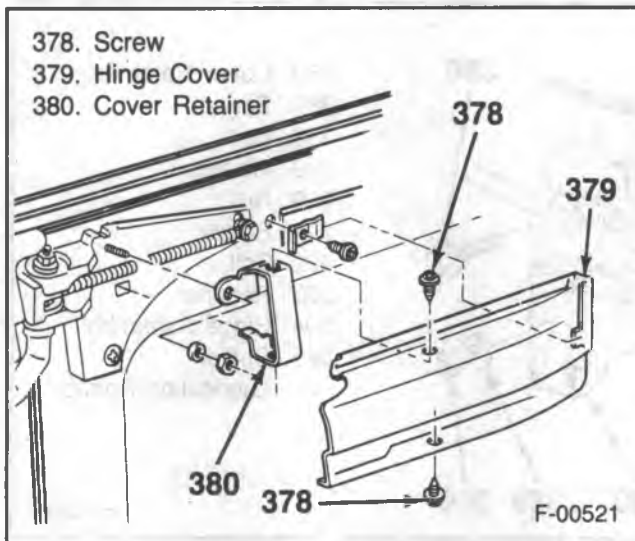

Figure 91 — Upper Hinge Cover
- 1. Hinge cover (figure 91).
7. Hinge cover (figure 91).